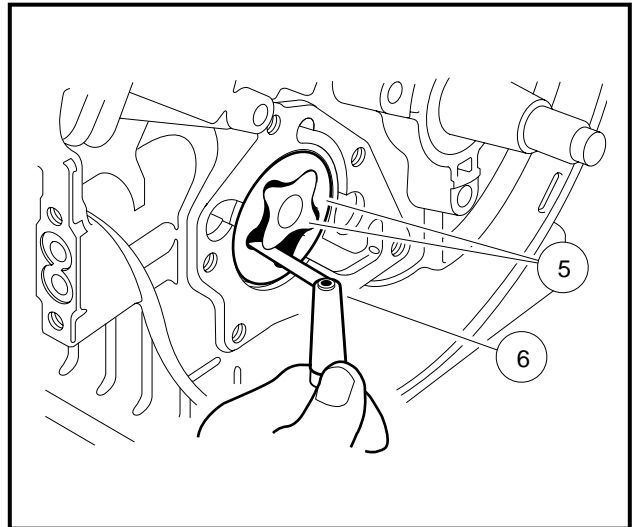

Figure 13-66 Measure Rotor Clearance
1. Check the clearance between the inner and outer rotors (5) with a feeler gauge (6). Measure the clearance between the high point of the inner rotor and the high point of the outer rotor (**Figure 13-66, Page 13-33**).